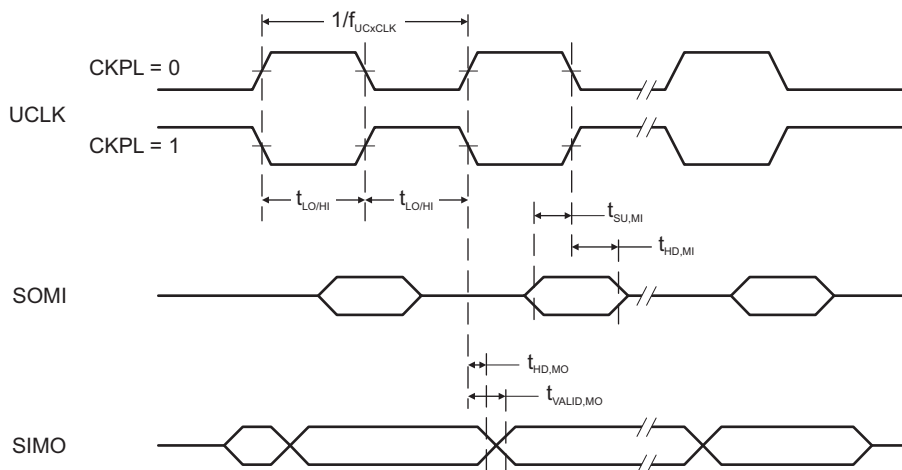
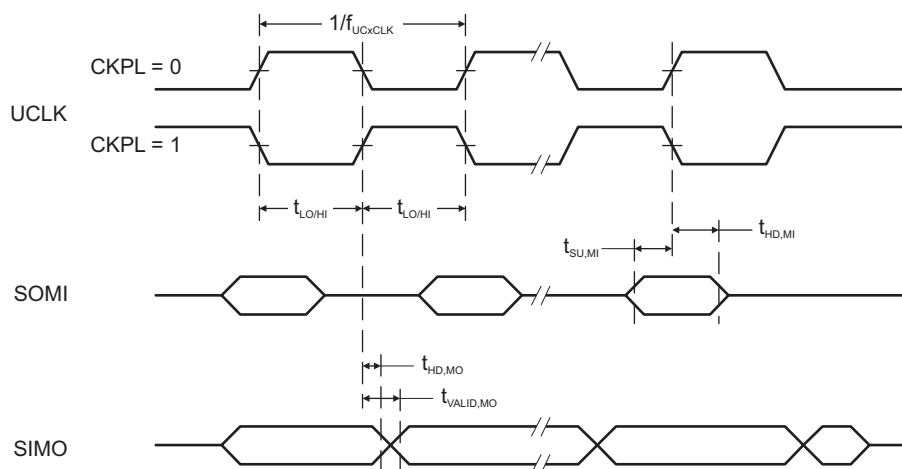

Figure 5-11. SPI Master Mode, CKPH = 0
Figure 5-12. SPI Master Mode, CKPH = 1
(see Figure 5-11 and Figure 5-12)
- (2) Specifies the time to drive the next valid data to the SIMO output after the output changing UCLK clock edge. See the timing diagrams in Figure 5-11 and Figure 5-12.
- (3) Specifies how long data on the SIMO output is valid after the output changing UCLK clock edge. Negative values indicate that the data on the SIMO output can become invalid before the output changing clock edge observed on UCLK. See the timing diagrams in Figure 5-11 and Figure 5-12.